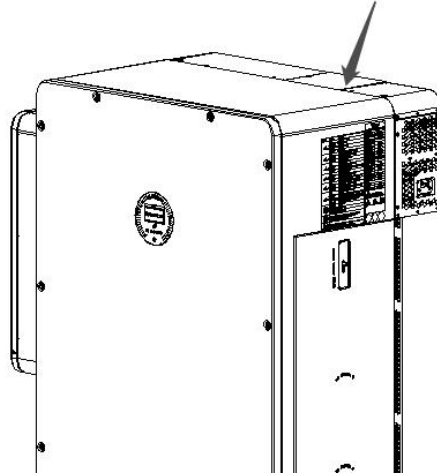

Fig 9.1 Position of the baffle
- 2> Remove the fan fixing plate using a cross-head screwdriver, as shown in Figure 9.1: